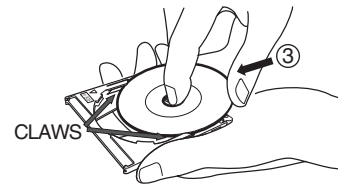

Fig. 6-2b
- 1) Hold the disc at its edge and center hole with the printed label surface up. (Fig. 6-2b)
- 2) Insert the disc under the claws at the disc hold portion in the direction of arrow ③ . Gently push the disc in until it is completely stored.